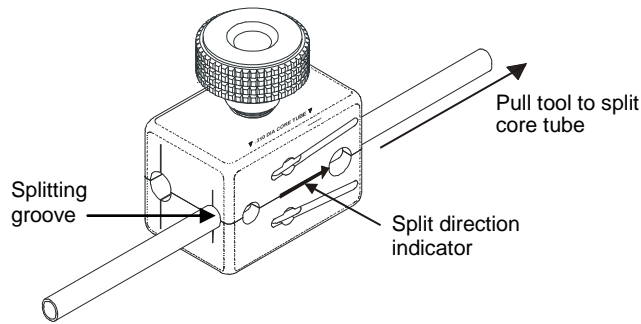

Figure 15 – Use the 1050-tool to split the core tube.
2. Use the appropriate 1050-type tool to split the core tube between the two marks (Figure 15).